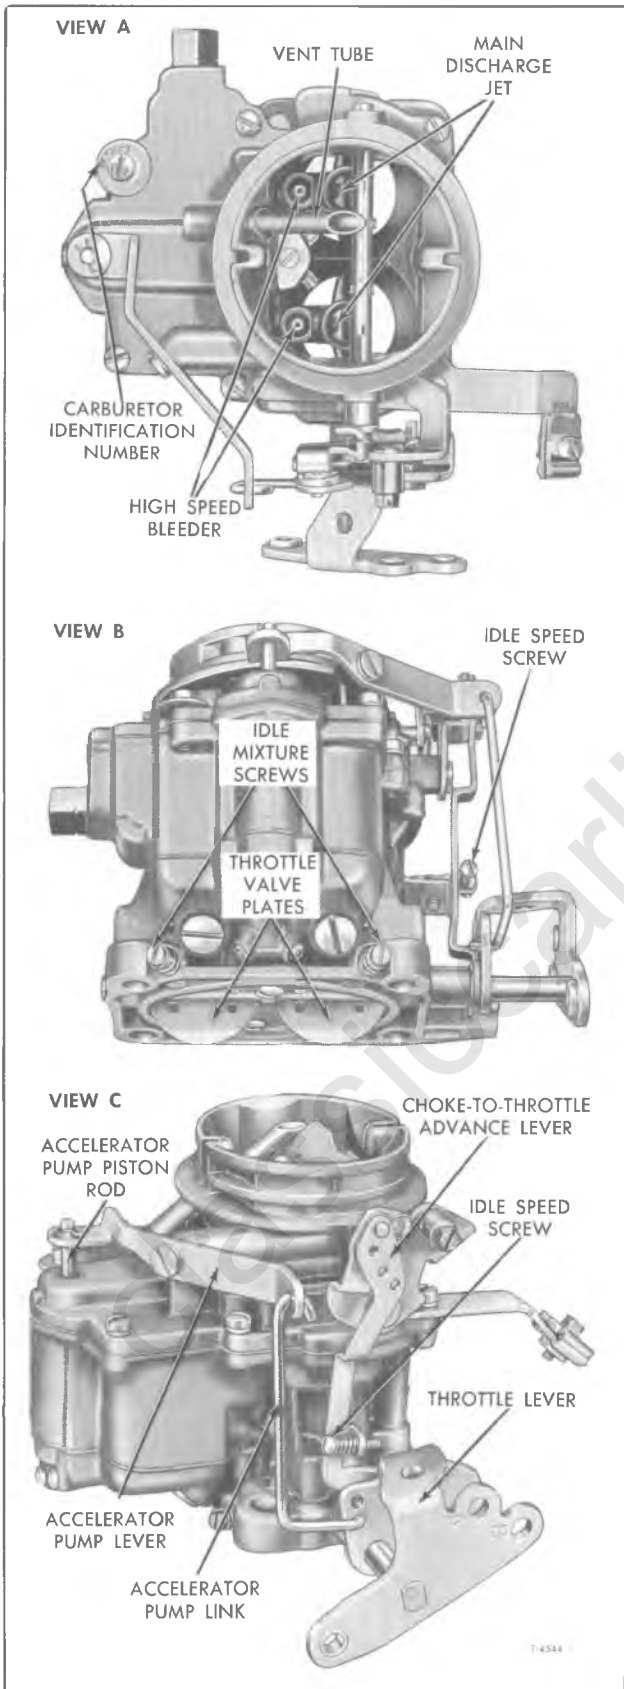
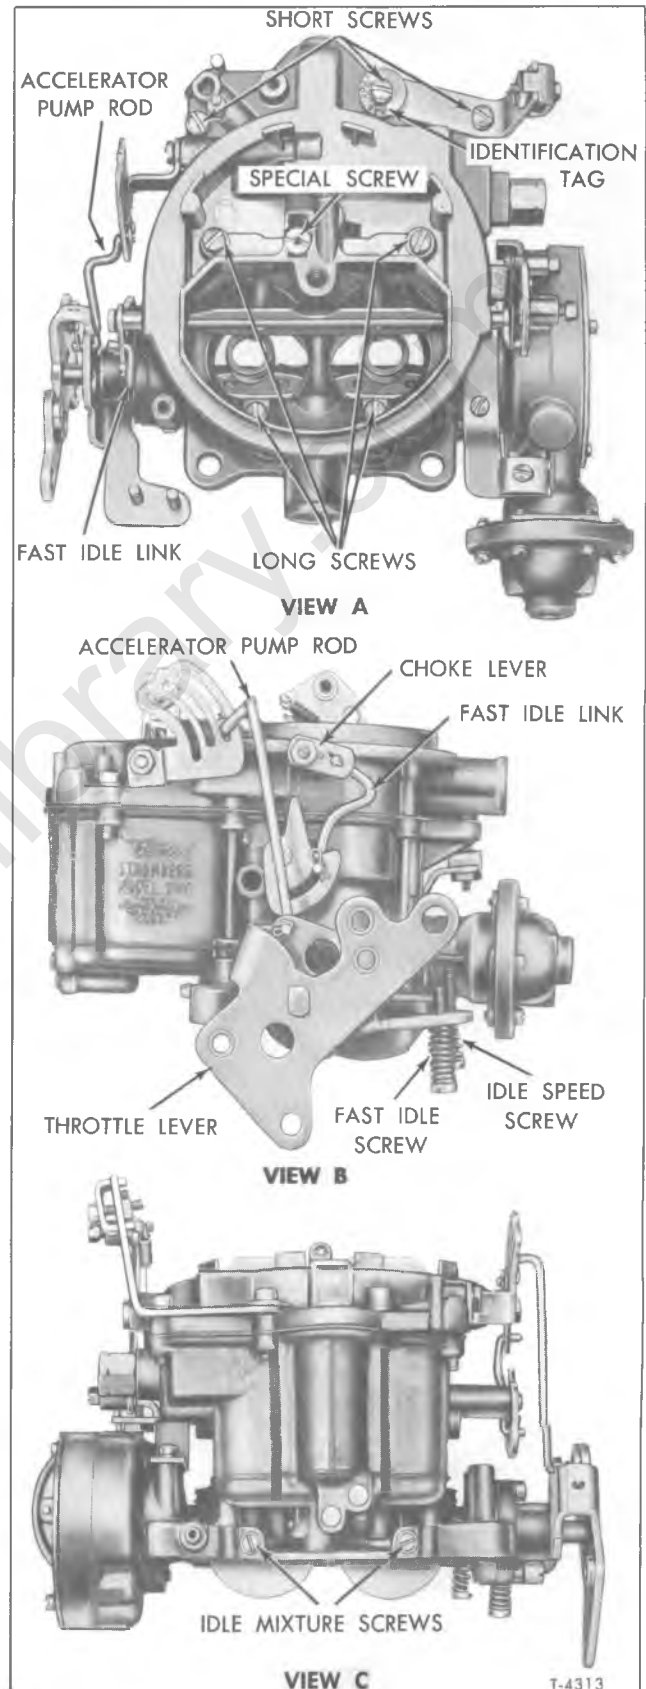

Figure 21—Bendix-Stromberg Carburetor (WW Series)
Figure 22—Bendix-Stromberg Carburetor (WWC Series)
Carburetors described in this section are used on vehicles equipped with V-6 engines. The Bendix-Stromberg (WW) carburetor (fig. 21) is used on 305C, 305E, and 351C engines. The Bendix-Stromberg (WWC) carburetor (fig. 22) is used on the 351M engine.
Each carburetor has an identification part number tag on the air horn cover, next to the fuel inlet, as shown in figure 21 and 22. Before attempting to repair a carburetor, refer to the identification number and secure the correct repair kit.
3. Set the engine to run at 550 rpm by adjusting the idle speed screw (figs. 21 and 22).
4. Adjust the idle mixture screws (figs. 21 and 22). With engine running and idling speed set, turn each idle mixture screw in until engine begins to slow down or run unevenly, then back out screws until engine runs smoothly with highest vacuum gauge reading.
4. With engine running, vacuum idle stop disconnected, check reduced engine rpm. The reduced engine speed should be 350 rpm. If necessary, re-adjust the idle speed screw (figs. 21 and 22) to obtain 350 rpm.
6. Adjust the idle mixture screws (figs. 21 and 22). With engine running and idling speed set, turn each mixture screw "in" until engine begins to slow down or run unevenly, then back out screws until engine runs smoothly with highest vacuum gauge reading.